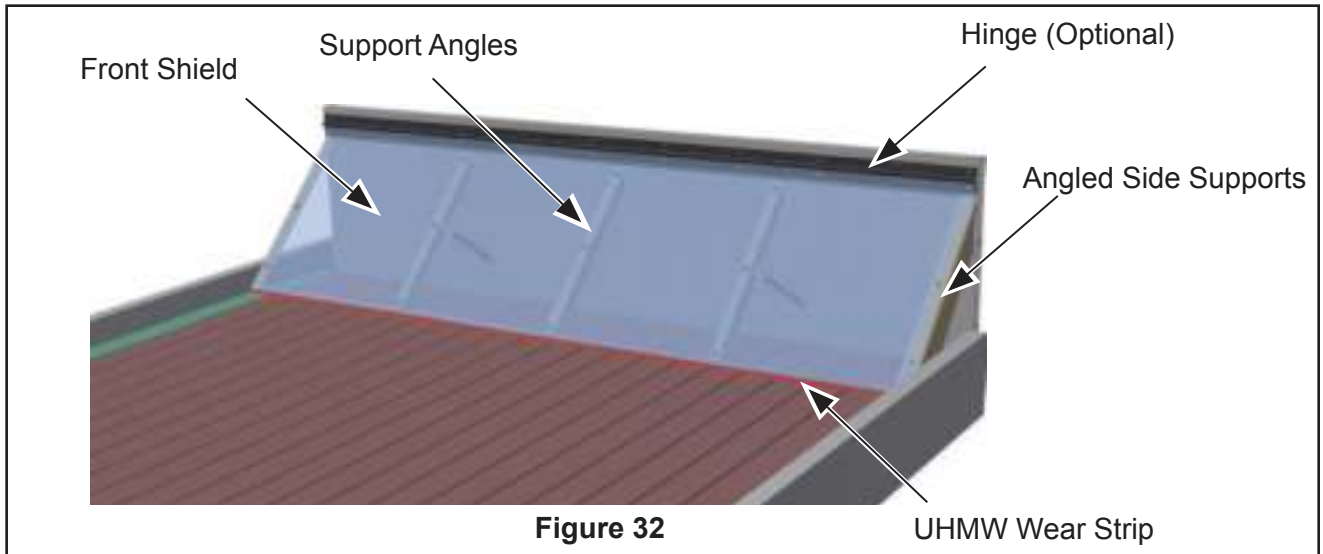

Figure 32
1. Determine Slope Shield & Support Dimensions: The width is equal to the inner trailer width. The front shield is commonly installed at approximately 45° between the front wall and the flooring. The UHMW wear strip should lie fully on top of the floor slats when the floor slats are in the rear position (at maximum distance from the front wall). (Figures 32 & 33)
2. Fabricate Sloped Front Shield & Supports: Form the slope shield plate and attach steel angles for added support. Rivet the plastic wear strip to the bottom of the shield. (Figures 32 & 33)
3. Mount Supports & Front Shield: Bolt or weld angled supports to the side walls. Bolt the slope shield to the front of the trailer and to the side supports. Turn Buckles can be added to hold the front slope shield down onto the slats. Clean-out holes can be provided below the front shield to reduce potential material buildup. (Figures 32 & 33)